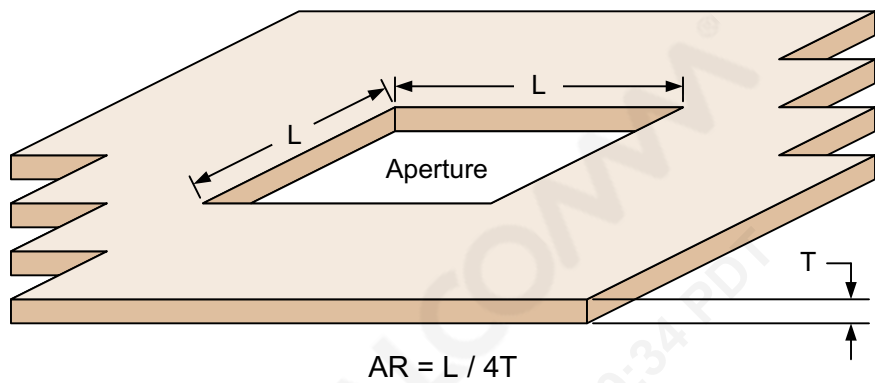

Figure 6-1 Stencil printing aperture AR
One key parameter that should be evaluated is the ratio of aperture area to sidewall area, known as the area ratio (AR). Qualcomm recommends square apertures for optimal solder paste release. In this case, a simple equation can be used relating the side length of the aperture to the stencil thickness (as illustrated and explained in Figure 6-1). Larger area ratios enable better transfer of solder paste to the PCB, minimize defects, and ensure a more stable printing process. Inter-aperture spacing should be at least as thick as the stencil, otherwise paste deposits may bridge.